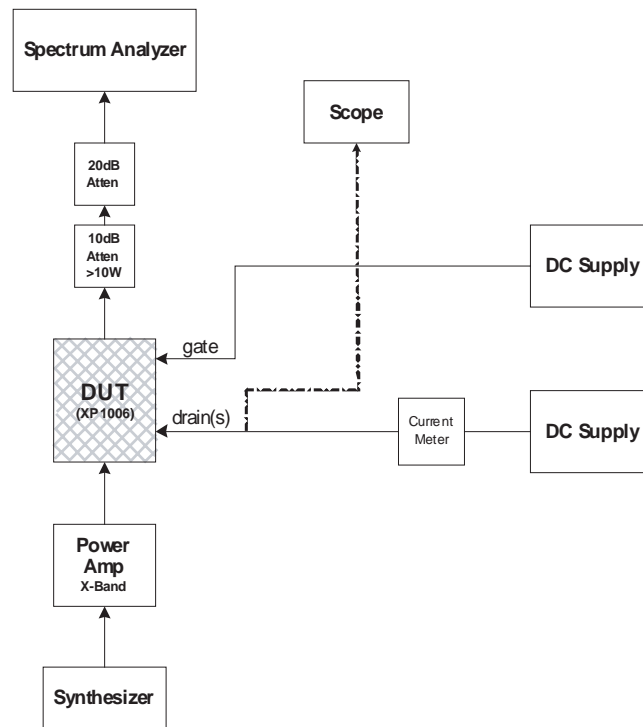

Figure 11: Basic CW-mode setup for Troubleshooting
- (1) Before powering up the MMIC under evaluation, connect the evaluation platform to the test equipment as shown in Figure 11.
- (2) The scope is used to check for oscillations on the drain lines.
- (3) The spectrum analyzer should be set to a very wide span, and is used to check for in-band and/or out-of-band oscillations.
- (4) The current meter is used for checking sudden increases in drain current, which indicates an oscillation is occurring. Note that the drain current will have small variations during the testing due to device heating.
- (5) Set the gate voltage to -5V (must be applied before drain)
- (6) Set the drain voltage to 2V
- (7) Apply the desired RF input signal, and monitor all points.
- (8) Gradually increase the drain voltage in 1V steps, up to 5V max. Check stability on all monitoring points while increasing the drain voltage.